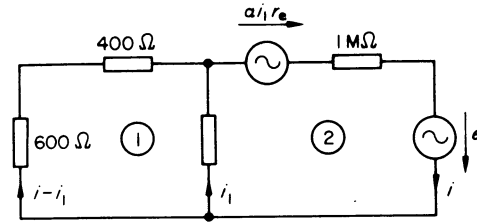

Figure 3.3
The output resistance of an amplifier is defined as the resistance of the amplifier viewed from the output terminals when all the signal sources have been replaced by their internal resistances. Hence, if the load resistor in the equivalent circuit is replaced by a voltage generator e , the output resistance can be determined by finding the ratio of e to i , where i is the current supplied by the voltage generator e as shown in figure 3.3. Using Kirchhoff's law around loops (1) and (2)